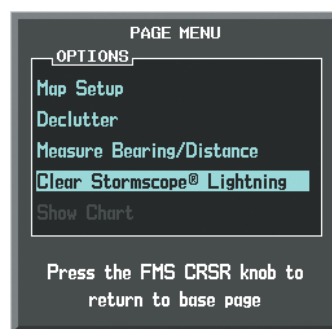

Figure 6-70 Navigation Map Page Options Menu
If heading input is lost, strikes and/or cells must be cleared manually after the execution of each turn (Figure 6-70). This is to ensure that the strike and/or cell positions are depicted accurately in relation to the nose of the aircraft.
- 3) Select 'Clear Stormscope® Lightning' (Figure 6-70).